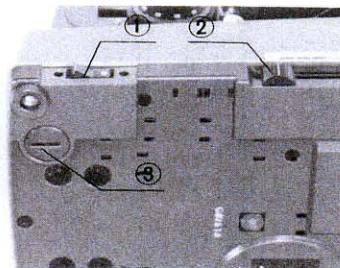

Fig. 5
For adjustment of the minimum line voltage, ascertain that the voltage selector switch is set to conform with the local mains voltage, and the sliding control lever ② is positioned closest to you (low voltage), and then activate the main switch ①. If the bulb is dimly lit, the secondary voltage is correct. If it is not lit at all, rotate the rheostat trimmer screw ③ gradually with a coin, until the bulb is dimly lit; then push the sliding control lever forward in order to obtain optimum light intensity. (Fig. 5)